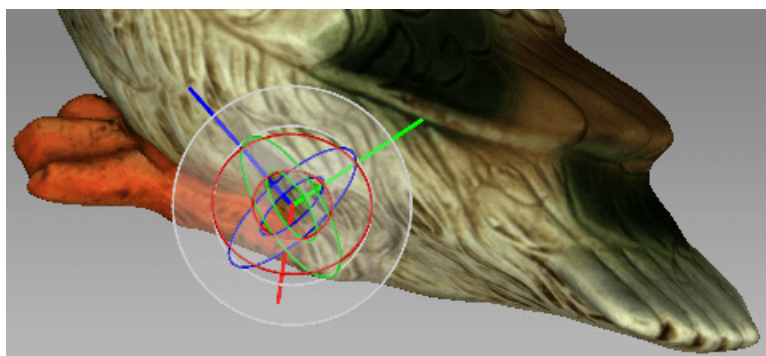

Figure 117: Rotation control
- Drag one of the three circles (see Figure 117) to rotate the object. Hitting the key that corresponds the required axis (**X**, **Y** or **Z**) will hide the controls for the other axes.